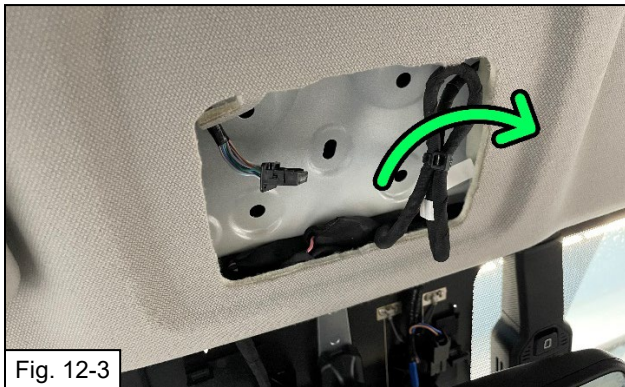

Fig. 12-3
- (c) Secure the Dashcam Pigtail and Y-harness bundle to the right side of the console opening. Tuck it behind the plastic structure on the right of the opening. Arrange this in a way that does not obstruct the console being reinstalled. (Fig. 12-3, 12-4)